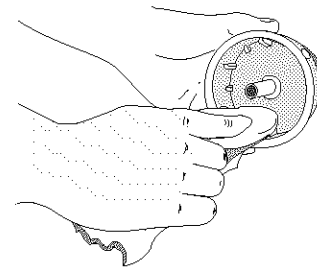

Fig. 28
4. Use a clean cloth to clean the the inner reel, spring, shaft, and inner surface of the outer spool (Fig. 28).